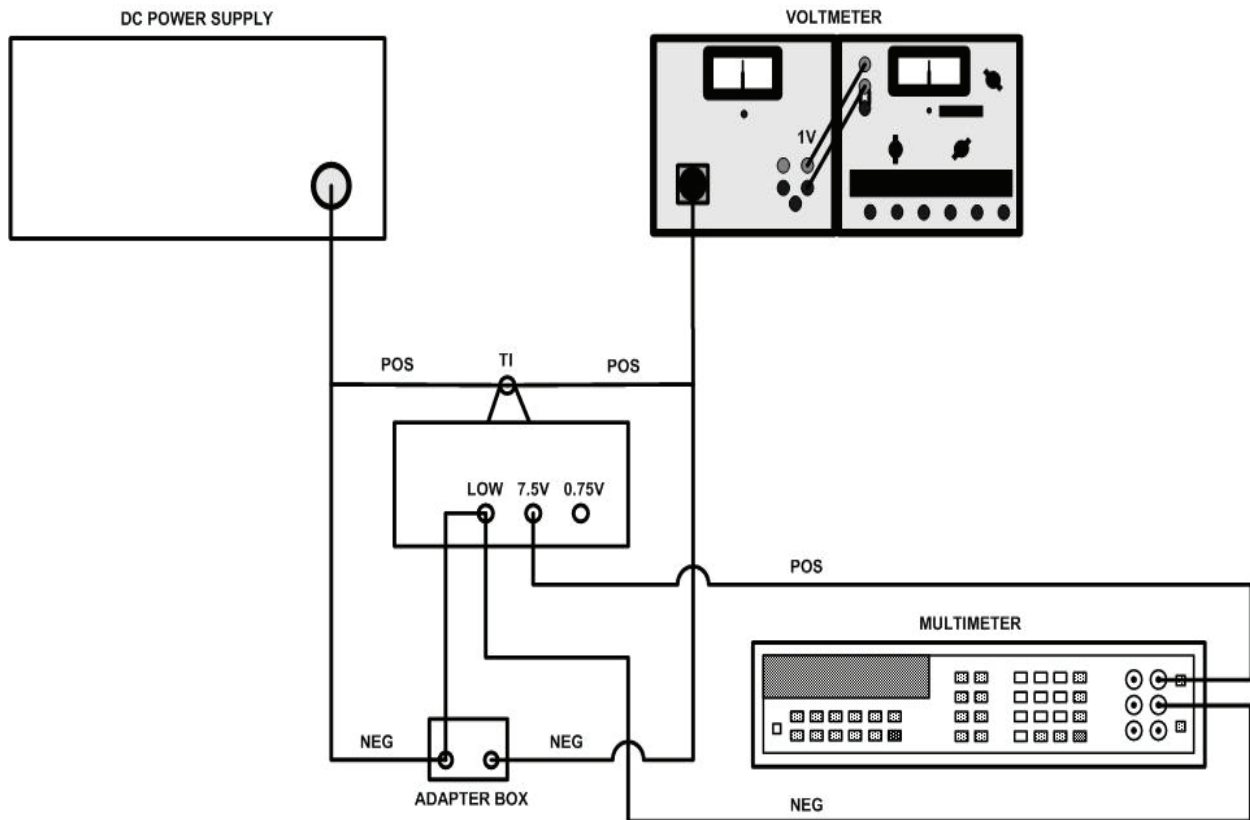

Figure 1. Divider accuracy - equipment setup.
b. Connect equipment as shown in figure 1.
Observe spacing of high-voltage leads when making connections shown in figure 1.